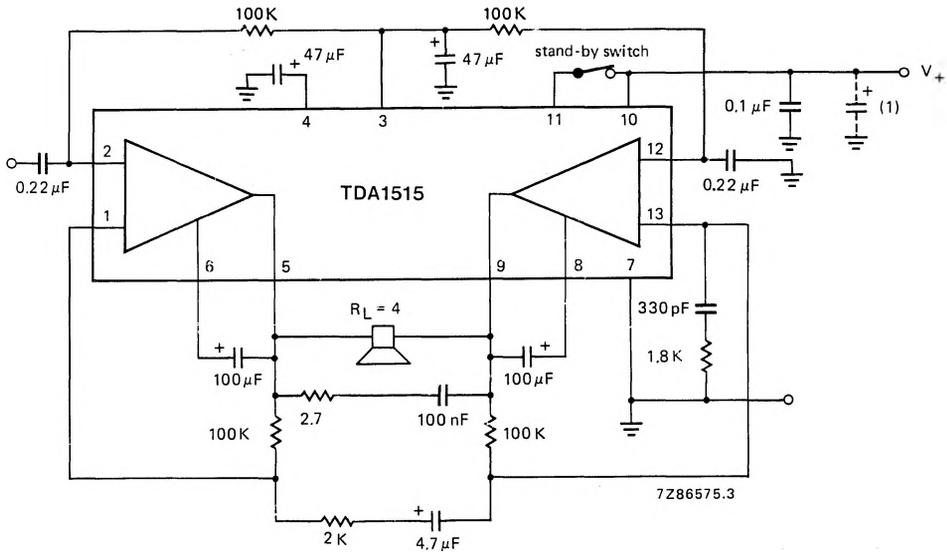

Fig. 3 Test/application circuit bridge tied load (BTL).
Bridge tied load application (BTL); see Fig. 3
4. The input impedance in the test circuit (Fig. 3) is typ. $100 \text{ k}\Omega$.